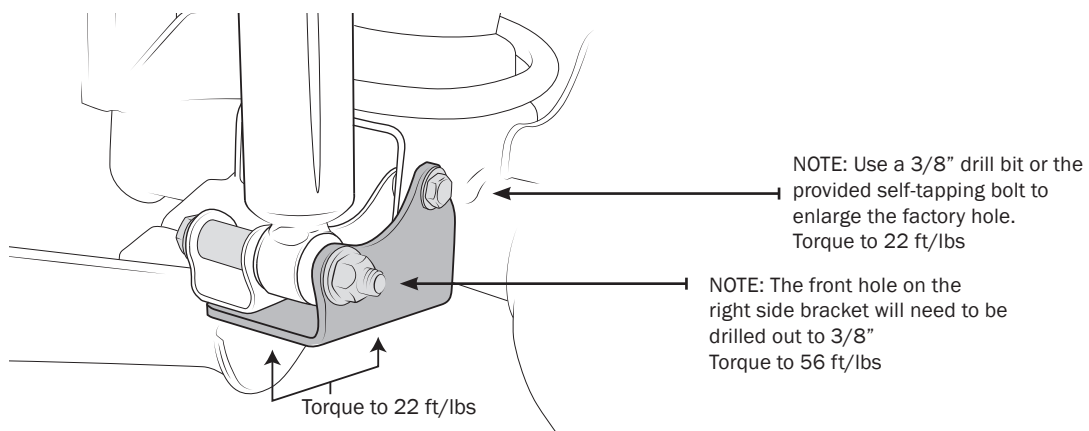

Figure 9
2. Install Shock Doubler brackets on both sides as shown using supplied hardware (Fig. 9).
3. Install shocks in Shock Doubler brackets as shown using supplied hardware (Fig. 9).